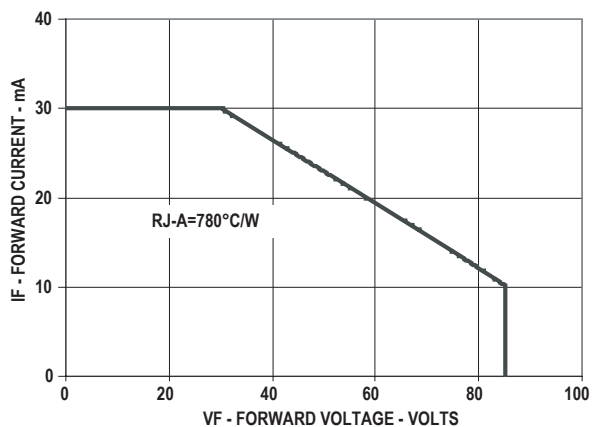

Figure 5. Maximum Forward current vs Ambient temperature based on $T_J=110^{\circ}\text{C}$
1. Derate linearly as shown in Figure 5